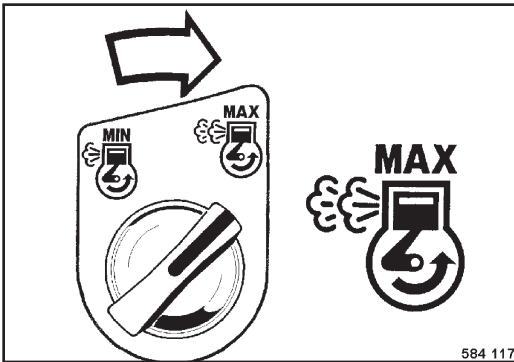

Fig. 50
- Turn the rotary switch (Fig. 50) to position "Max" (full throttle).